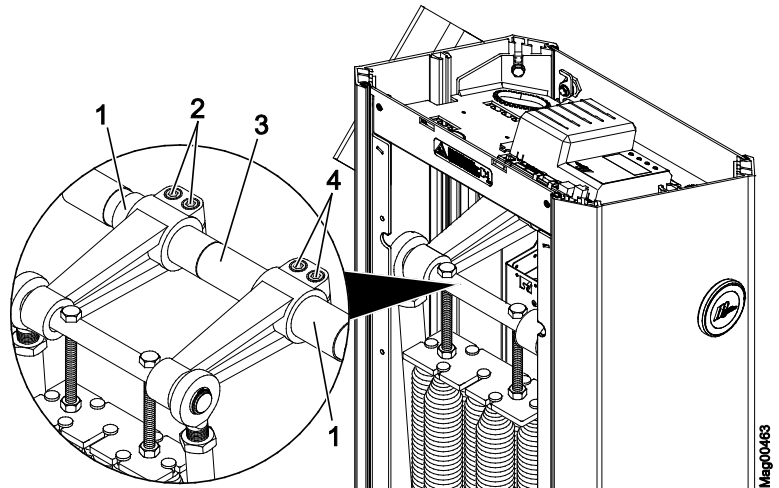

Fig. 33: Access XXL – Loosen hexagon socket screw
- For Access XXL see page 75, Fig. 33.